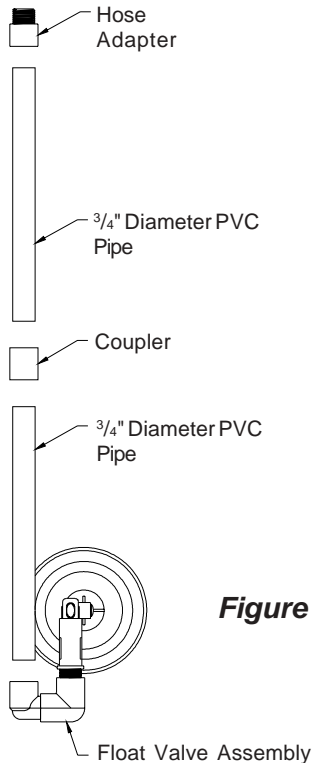

Figure 22B
- 10) Prepare the float valve assembly, pipe, coupler and hose adapter in accordance to PVC primer and cement directions and assemble the float valve assembly, pipe, coupler and hose adapter. **See Figure 22B.**